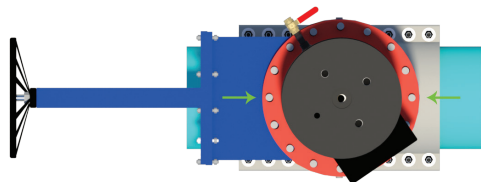

Figure 67 – Alignment nut placement for insertion housing alignment
5.1.2) Thread 2 alignment nuts onto the studs which connect the insertion housing to the temporary gate valve. Place these nuts at the locations shown in Figure 67. Install alignment nuts so that the tapered part of the nut enters the flange hole.